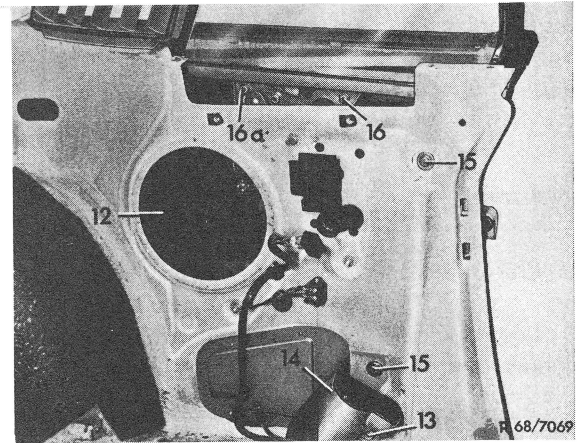

Fig. 3
- 5 Unscrew cover from assembly hole (12) (Fig. 3).